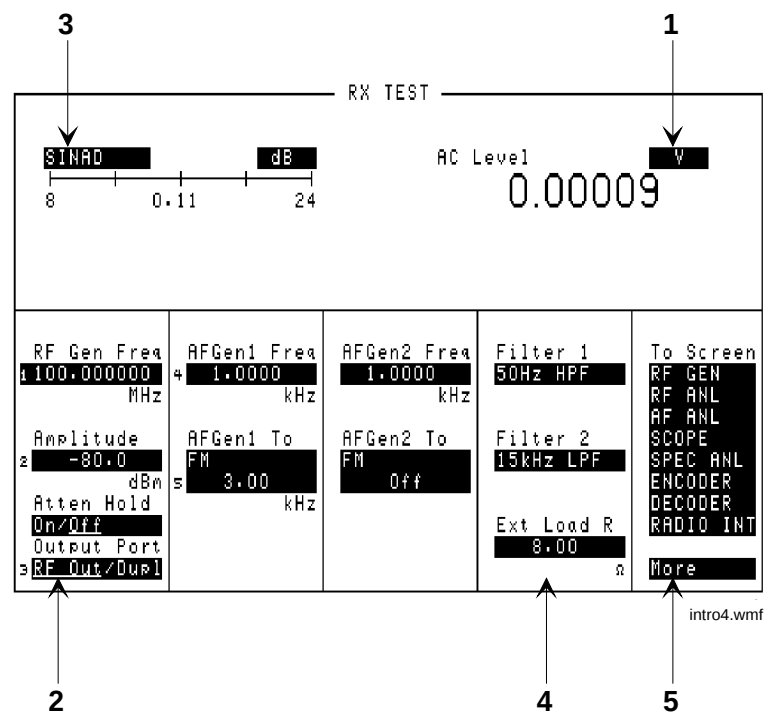

Figure 3 Different Types of Fields
- The front-panel Cursor Control knob (using the **To Screen** menu, see item 5 in Figure 3 on page 43)
Unit-of-measure can be changed to display measurements in different values or magnitudes. See item 1 in Figure 3 to see an example of a units-of-measure field.
Underlined immediate action fields provide a choice of two settings. See item 2 in Figure 3 to see an example of an underlined immediate-action field.
One-of-many fields display a list of choices when selected. See item 3 in Figure 3 to see an example of a one-of many field.
The **To Screen** menu (see item 5 in Figure 3) is a variation of the one-of-many field.
Numeric-entry fields contain values for settings like External Load Resistance and RF Generator Frequency. See item 4 in Figure 3 to see an example of a numeric-entry field.